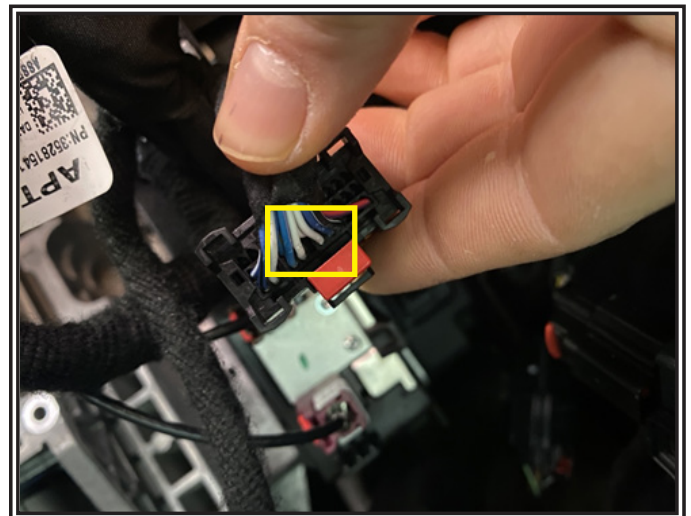

Figure 5
Step 6. Locate the wires going to pins 5 and 6 (Blue and White) and trace them back along the cable a few inches, shown in Figure 5. You may need to cut back the mesh jacket to get far enough back from the connector to work.